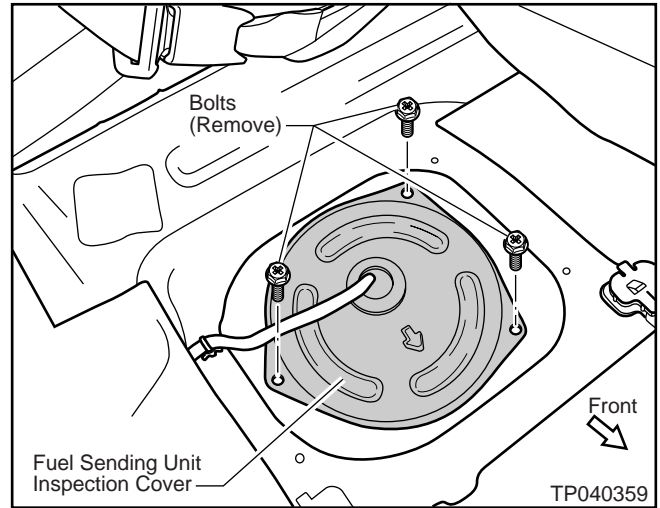

Figure 16
3. Remove three Bolts and lift the Fuel Sending Unit Inspection Cover UP (see Figure 16).